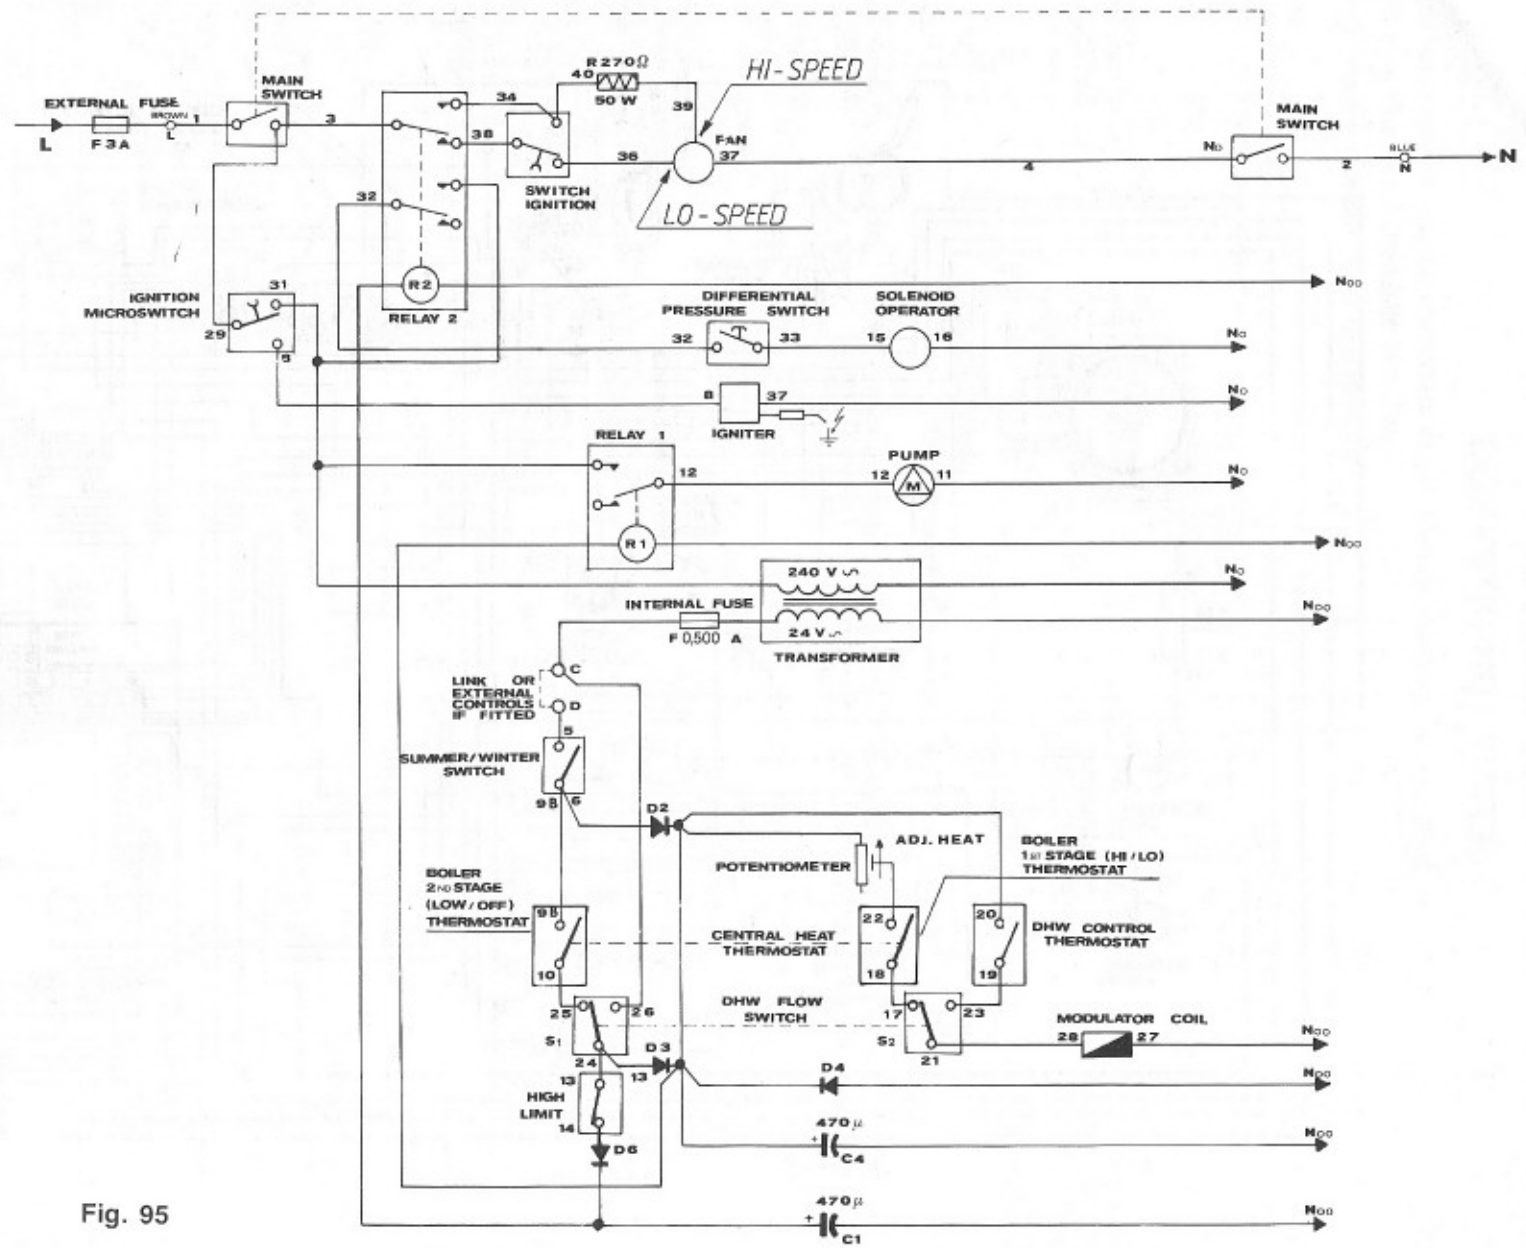

Fig. 95
- 7.26.6** Detach the wires that are connected to this. Remember that they must subsequently be reconnected to the same terminals (Fig. 95).